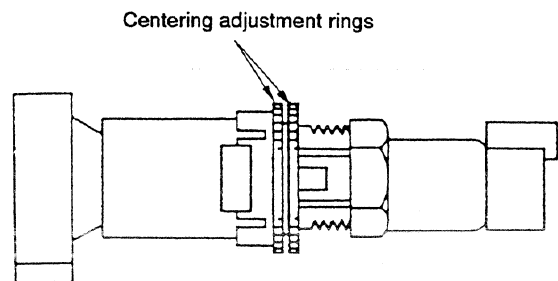

Fig. 7-49.
- 1) Turn the centering adjustment rings to provide an image with even right, left, upper and lower margins. (See Fig. 7-49.)